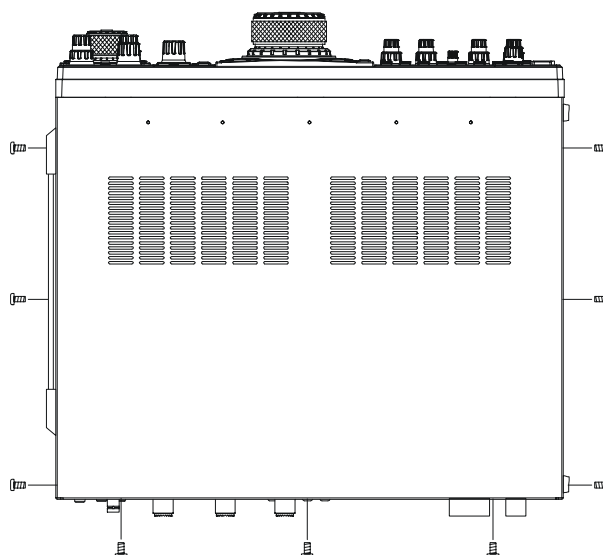

FIGURE 1
4. Referring to Figure 1, remove the three screws from each side of the transceiver, and three screws from the top edge of the rear panel. Slide the top cover toward to the rear about 1/2 inch (1 cm), then remove the top cover.